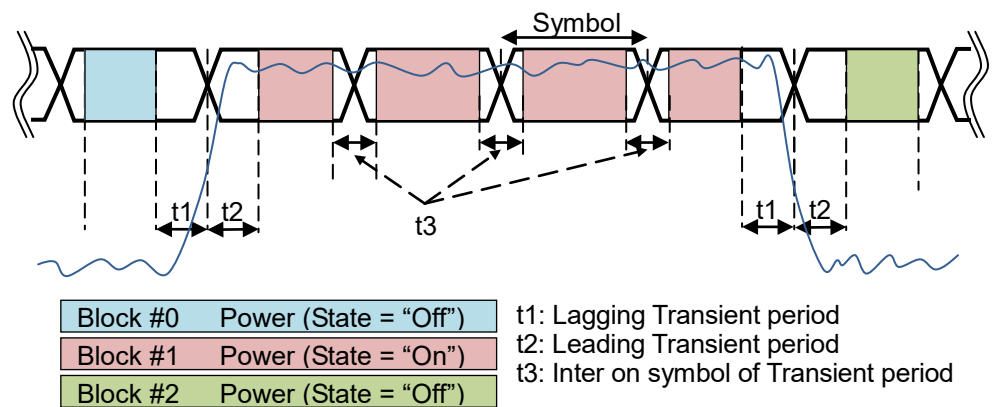

Figure 3.22-2 On Block Power Calculation Range
Refer to Figure 3.22-2 On Block Power Calculation Range
- Figure 3.22-2 shows the power calculation range for each block when the state of 6 symbols is "Off, On, On, On, On, Off".